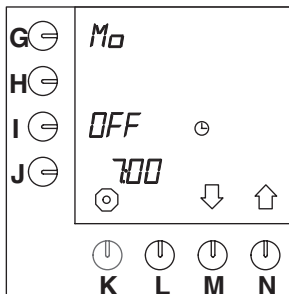

Fig. 43 Container preheating
- OFF appears on the display beside the programming key (I.) (fig.43).